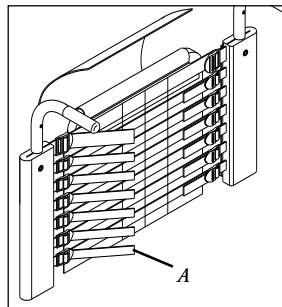
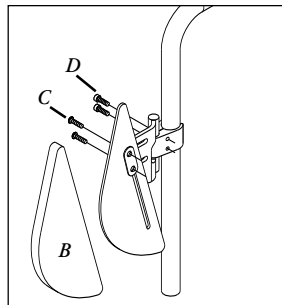

Figure 14
Figure 15
1. Contour Adjustment (Fig. 14)
- To modify the contour of the Jay Precision Back: Pull the Tensioning Straps (A) inward to increase the tension and lift the tab of the Tension Lock Buckle to release it.
2. Lateral Supports Location Setting (Fig. 15)
- Remove the lateral covers (B). Leave the lateral support foam pads on.
- To move the lateral supports up or down loosen the screws (C) and slide them vertically until desired location is obtained, tighten the screws (C) to secure the lateral supports.
- Should more adjustment be required, two more openings are available on the back cane envelopes to allow for height adjustment of the hardware itself. To relocate the hardware loosen the screws (D) of the clamp until it can be taken off the cane. Move the clamp and hardware up or down as needed and tighten the screws (D) firmly.